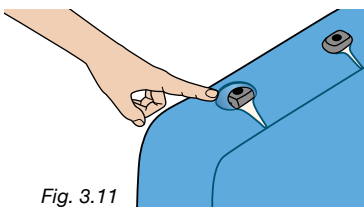

Fig. 3.11
G. To complete the backrest cover installation, push the fabric under the headrest post covers for a finished look (Fig. 3.11).